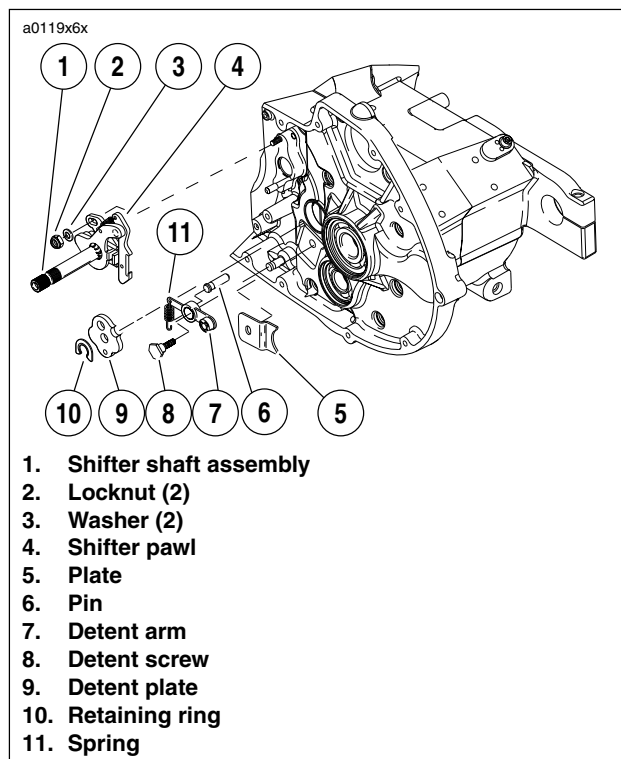

Figure 6-52. Installing Shifter
1. See Figure 6-52. Lift pawl over drum pins and place shifter shaft assembly on studs at transmission case. Loosely install a washer and locknut on each stud.